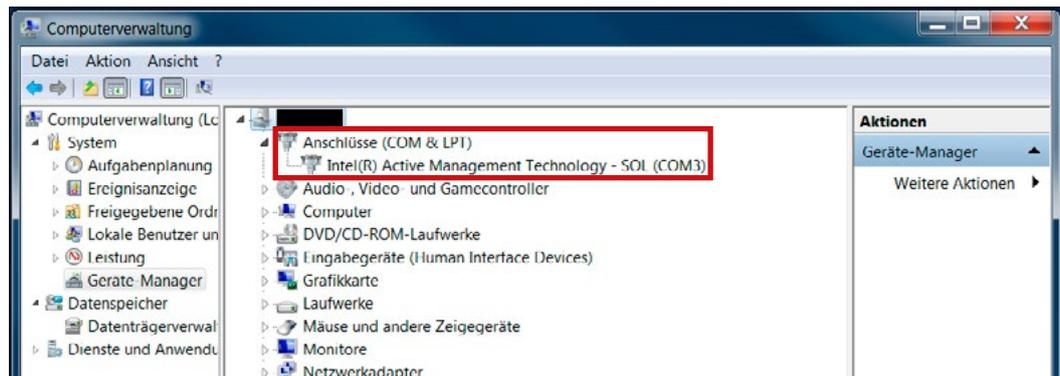

Fig. 11: Windows device manager - COM ports (example)
- 4.1 Check the available COM ports and COM port numbers in the windows device manager (control panel) (see Fig. 11).